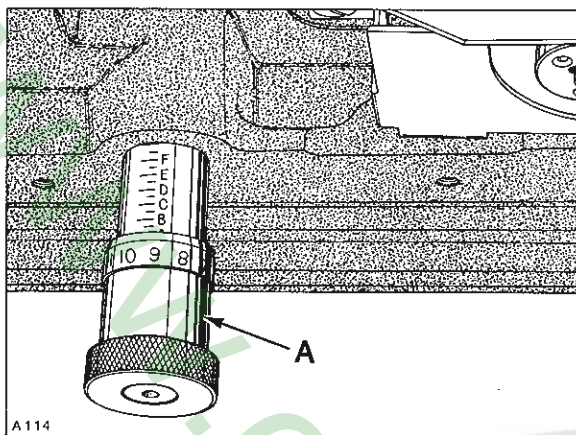

Fig. 18
Stitch length is changed by turning stitch regulating knob (A, Fig. 18) clockwise to shorten the stitch or counterclockwise to lengthen same. Recheck front to rear clearance under "FEED DOG SETTINGS" whenever stitch length is changed. Stop collar at rear of machine attached to stitch regulating knob shaft can be set to prevent stitch length regulating knob (A) from accidentally being turned beyond the desired stitch length.